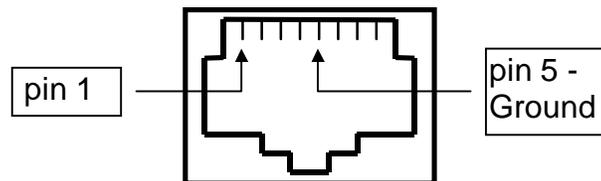

Figure 2-6 Programming Connector J2, Front View
2. Using an oscilloscope or DVM, adjust the RX control (R88) until a reading of 470 mV rms (or 1.33V p-p) is present at pin 1 of the ZR350 programming connector, J2, on the front of the unit, or on either pin of JP10 on the Controller Board inside. See Figure 2-6 for the location of J2-pin 1.